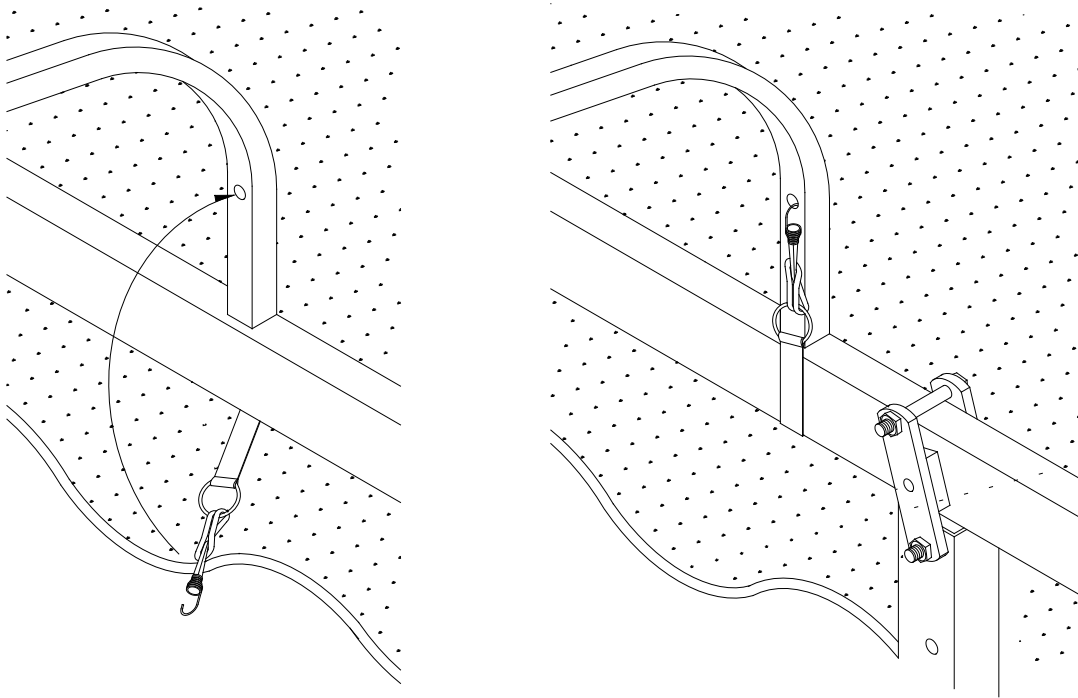

Figure 2-9
Refer to **Figure 2-9**. Wrap a bungee cord around the ring in the tie down strap and thread hook end through loop. Attach hook end to hole in canopy rib as shown.
18. Refer to **Figure 2-9**. Insure that the canopy is positioned at the desired location in relation to the boat.